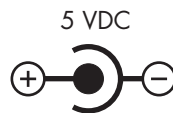

Figure 2. Power connection barrel receptacle 5 VDC diagram
- The power connection to the CPE is a 2.5 mm barrel receptacle with the center conductor positive (see figure 2).